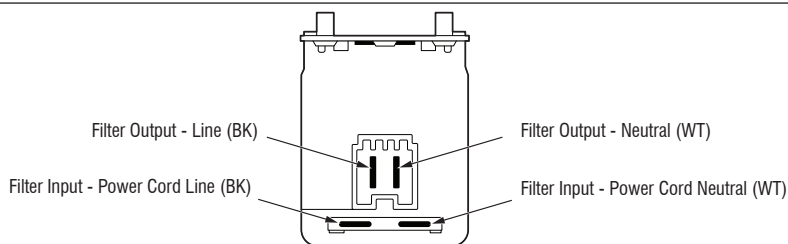

Figure 2 - Interference Filter (IF)
3. Visually check that all connections to the interference filter (IF) are securely connected. See Figure 2, page 13.
7. With a voltmeter set to **AC**, check for line voltage at the input of the interference filter. See Figure 2, page 13.
8. With a voltmeter set to **AC**, check for line voltage at the output of the interference filter. See Figure 2, page 13.